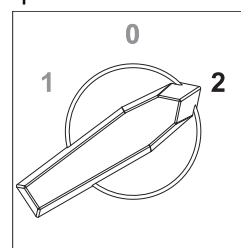

Figure 3-10. Flex Switch—Position 2
- See Figure 3-10. Switch the flex switch (if equipped) to position 2.